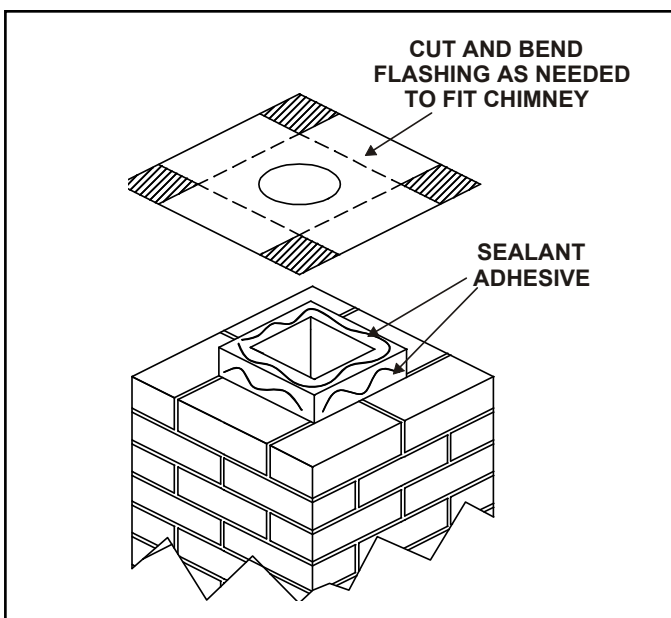

Figure 5.12
- Trim chimney top plate to minimize excess overhang or bend over flue tile. See Figure 5.12.